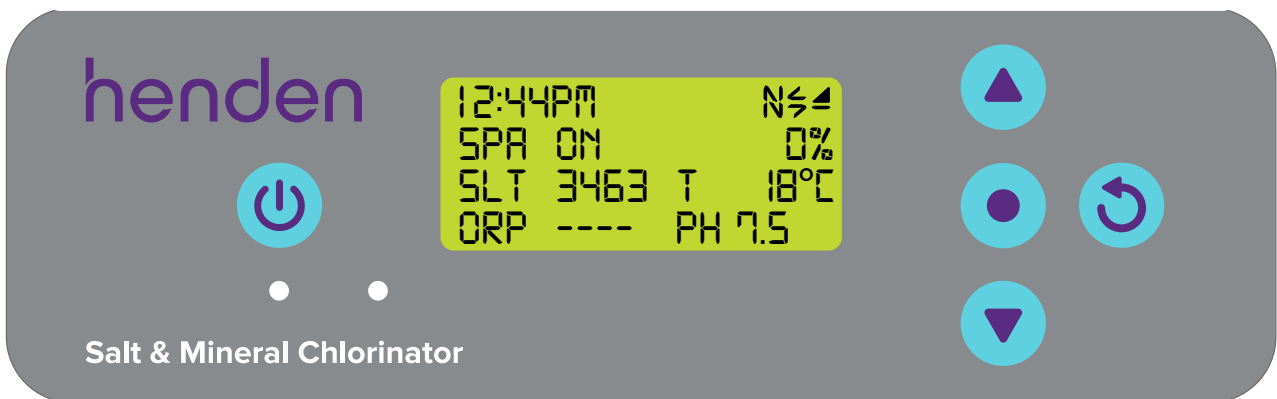

Figure 9.68
- Once back at the **HOME SCREEN** the display will toggle to show SPA ON (refer Figure 9.68).